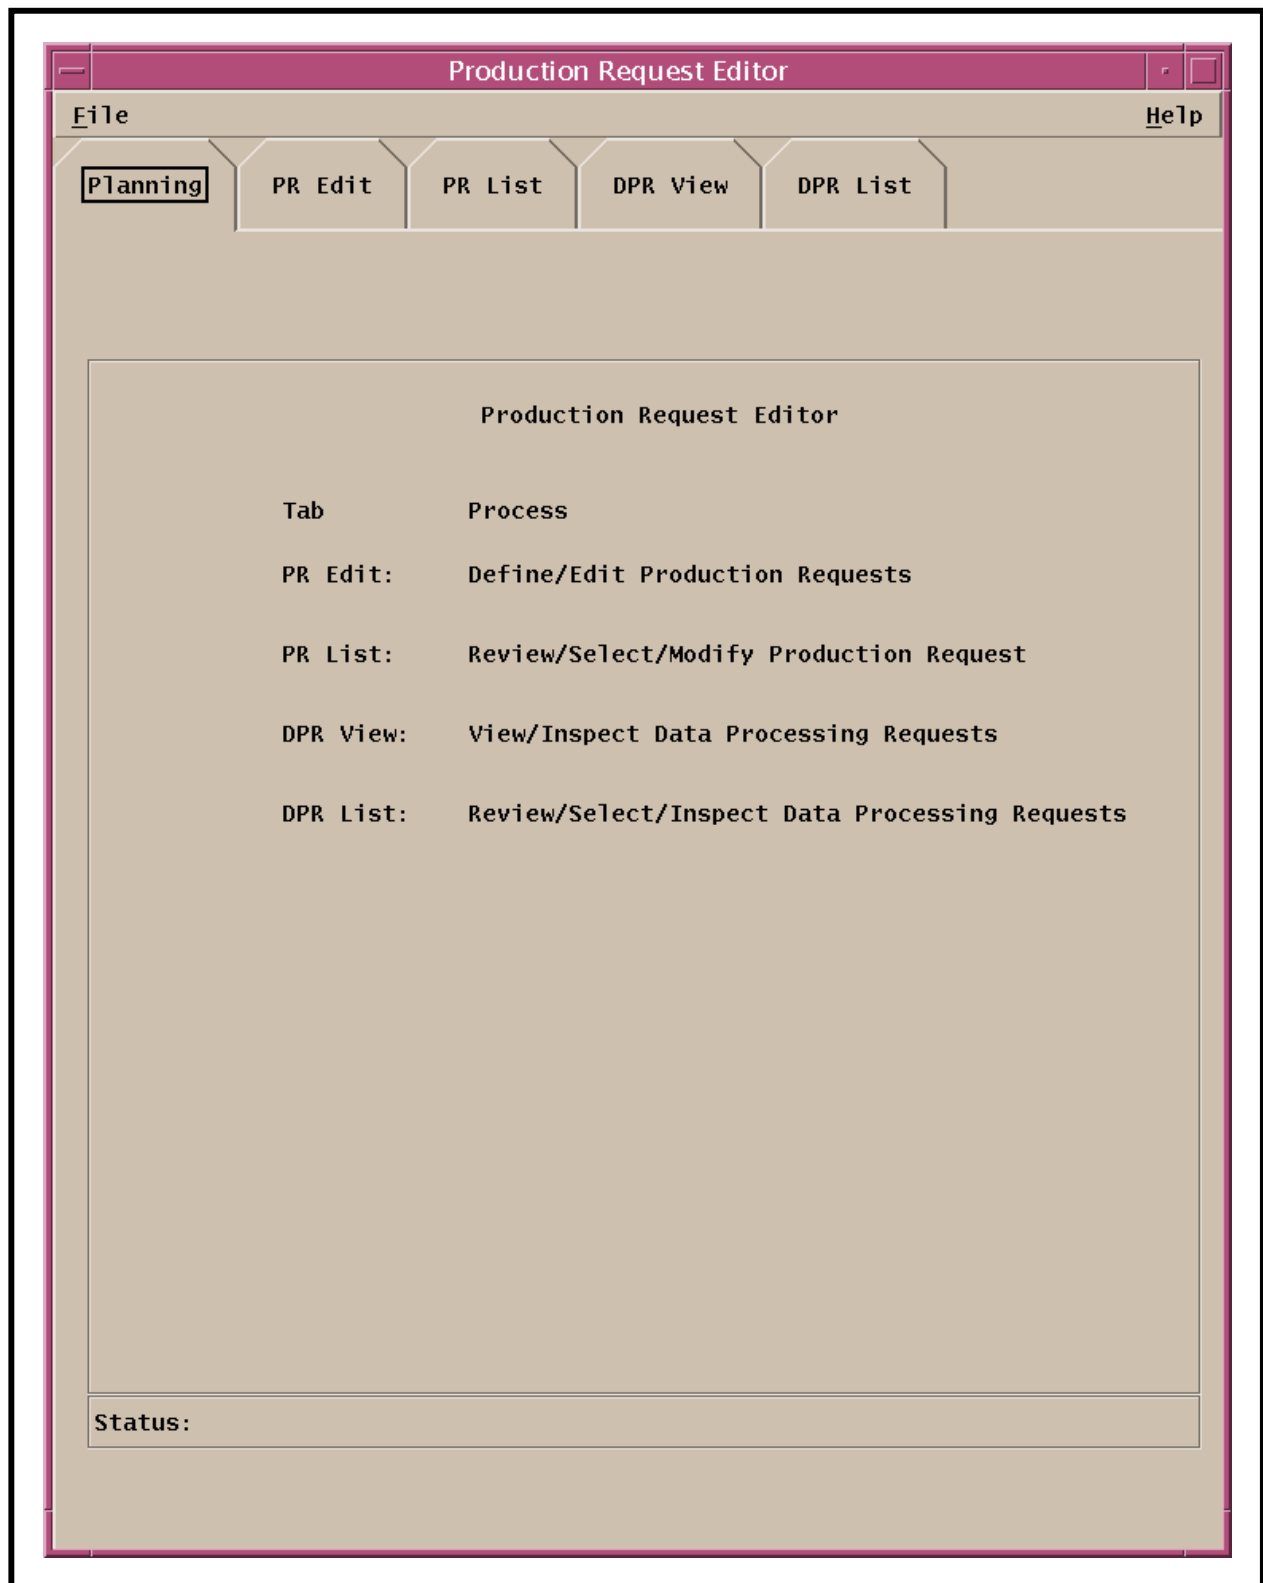

Figure 17. Production Request Editor Introductory GUI
- The **Production Request Editor** graphical user interface (GUI) introductory window (Figure 17) is displayed.
The procedure for creating a new production request using the Production Request Editor GUI starts with the assumption that all applicable servers and the **Production Request Editor** GUI are currently running and the **Production Request Editor** Introductory GUI (Figure 17) is being displayed.